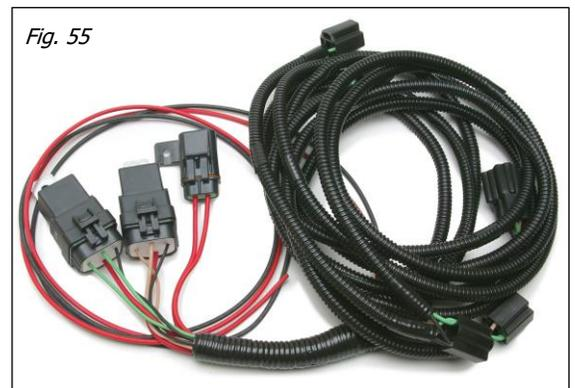

Fig. 55
**If halogen bulbs are being used** Painless recommends using Painless part **# 30814** (1970 models) or **# 30815** (1971/1972 models). This additional relay harness is needed to avoid overloading the headlight switch with the higher demands of halogen bulbs (see Fig. 55).